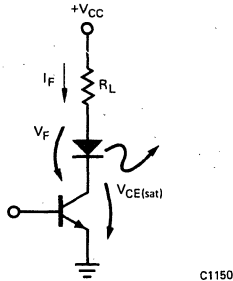

Figure 4.
**Active-Low Drive Circuit.** Figure 4 shows a single-transistor drive circuit that lights the LED when the transistor is "low," i.e., conducting. The value for  $R_L$  can be calculated from